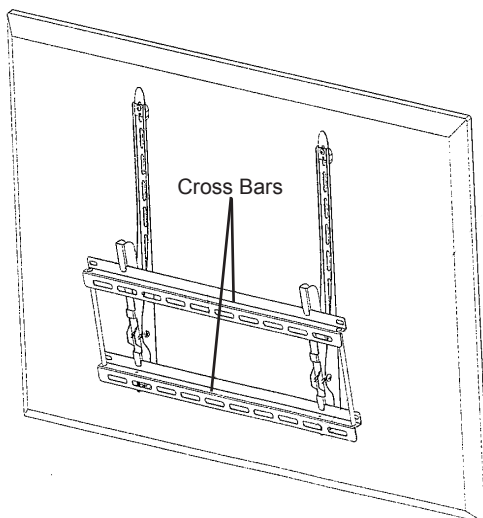

Figure 5
6. Carry TV to mounted Bracket and lower onto Cross Bars, making sure the four tabs of the mounts are hooked onto the top of Cross Bars and that TV is centered. See Figure 5.